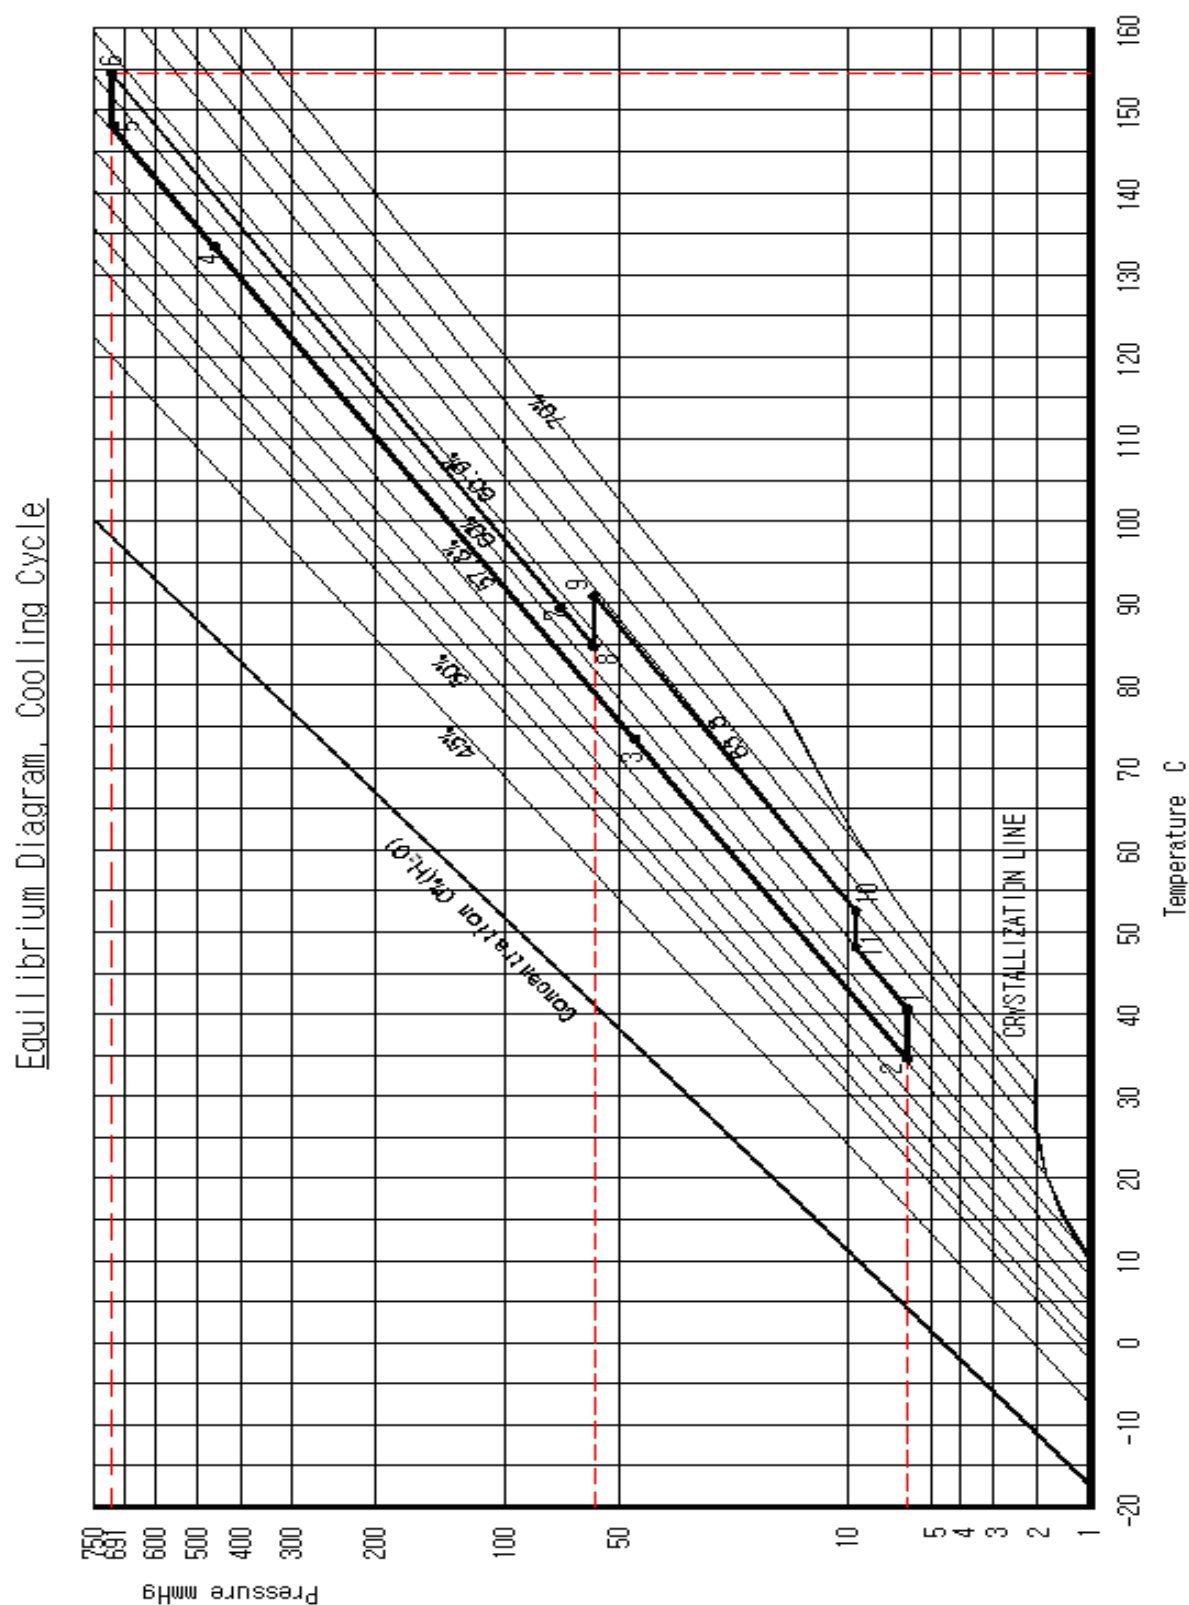

Fig. 2-12. Basic cooling cycle of the DW Series
- Point 6. Represents the intermec Fig.2-12 Basic cooling cycle of the DW Series id entering the high temperature heat exchanger after being re-concentrated by boiling out refrigerant. It can be